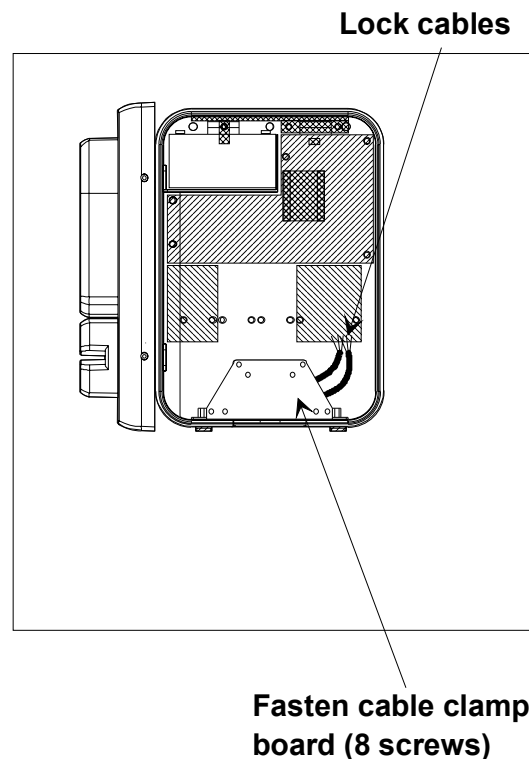

Figure 7. Connecting the Cables
1. Line up the cables with the grooves at the back of the terminal (see Figure 7) and screw in the small plate that serves as a cable clamp (use a Ø 5mm Philips head screwdriver).